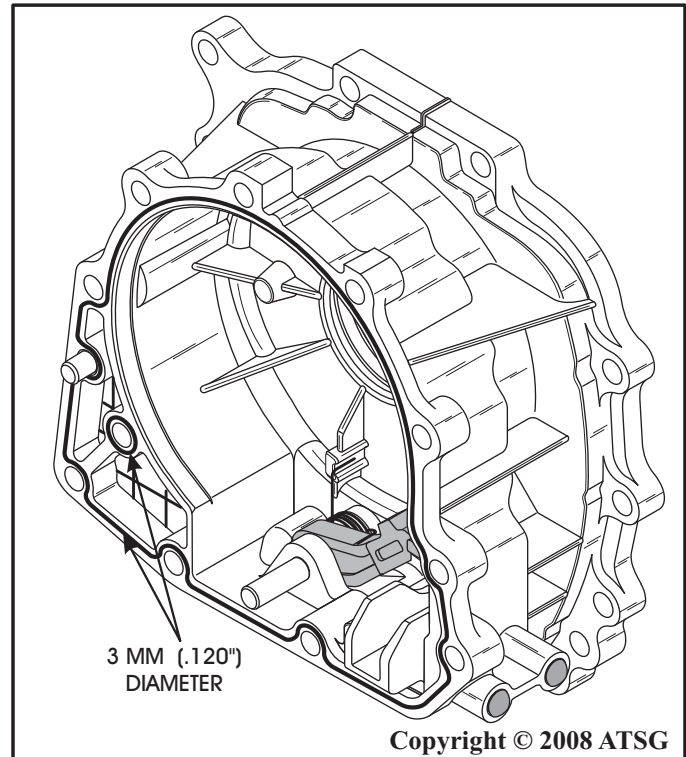

Figure 232
1. Apply a 3 mm (.120") bead of sealant (RTV) onto the 4WD adapter housing in two places, as shown in Figure 232.